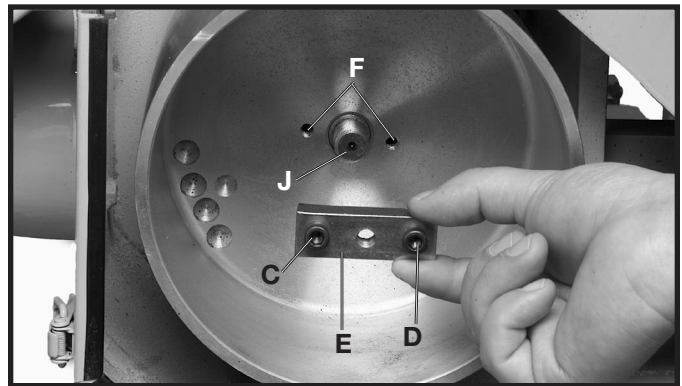
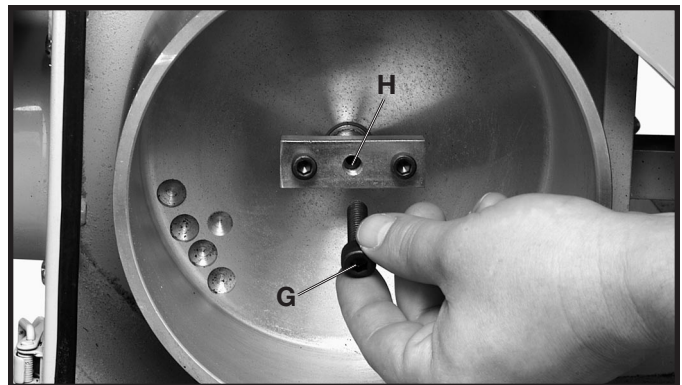

Fig. 60
Fig. 61
3. Insert the two 1/4-20x1-3/4" socket head screws through holes (C) and (D) Fig. 60, on the retraction plate (E).
4. Thread screws (C) and (D) Fig. 60 into the two tapped holes (F) in the drum.
5. Thread a 5/16-18 x 1-1/4" socket head screw (G) Fig. 61, into the tapped hole (H) in the retraction plate.
6. Turn screw (G) Fig. 61, against shaft (J) Fig. 60. This will pull the drum off the shaft.